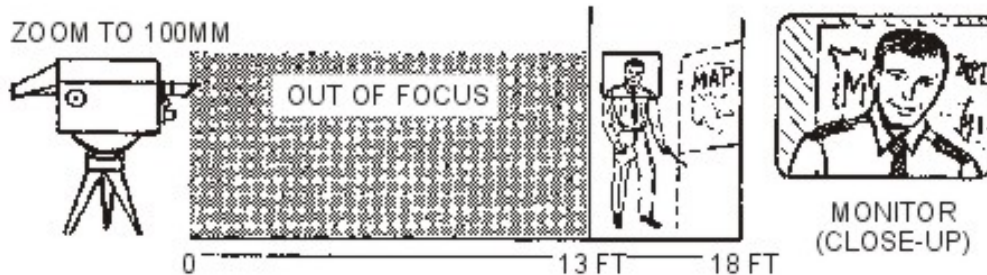

Figure F-1. Zoom In to Close-Up
(1) Assume you are using a zoom lens at a 50mm starting point, and you will zoom in to a 100mm tight shot. The distance to the subject is 13 feet. The f/stop is set at f/8.
(2) Zoom in to the map and adjust the focus control for the sharpest picture possible. Figure F-1 illustrates the depth of field at this point; the lens has now changed from 50mm to 100mm. The subject is in front of the camera, back to the map. In essence, the subject could move two feet towards the camera or move back to the map and still be in focus.